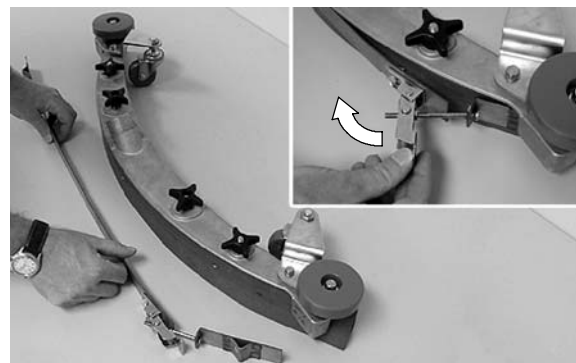

**FIG. 51**
2. Unthread the black plastic filter housing and clean or replace the orifice plate and filter (Figure 51).